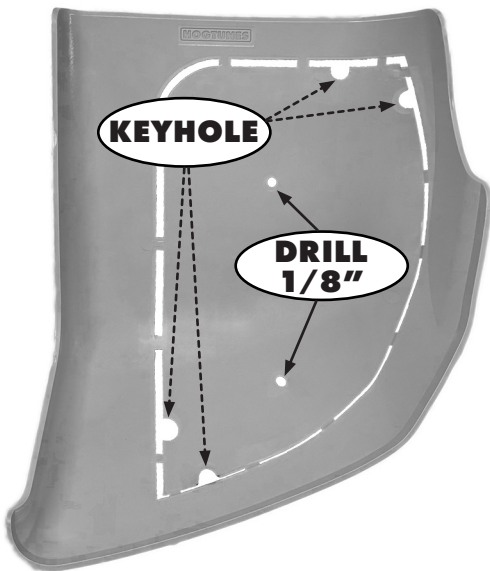

Figure 1.3
- Step #2: Using Fig 1.3, put the correct template on the correct lid and drill through the 2 holes in the middle area of the template using a 1/8" (3mm) drill bit. Locate 2 of the supplied "pointy" ended screws from bag labeled "Screw #3" and using hand tools, secure the template to the lid. You will also see "keyhole" shapes in each template where you will start to cut when its time. Drill a 1/8" (3mm) "starter hole" in each of these key holes and then enlarge these holes to 5/16" (8mm).